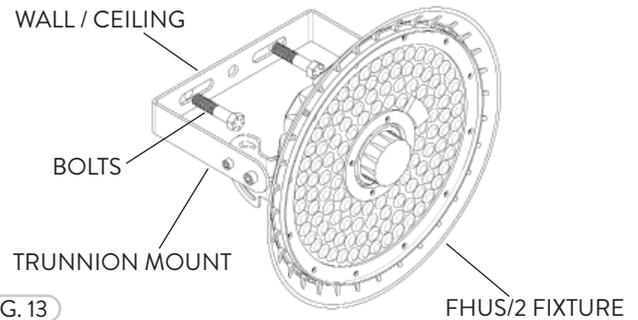

FIG. 13
- 4 Fasten the TRUNNION MOUNT, with the FHUS/2 fixture, to the mounting surface (Wall or Ceiling) with the appropriate bolts by a certified personnel and may vary depending on the mounting surface (Fig. 13) (Mounting Bolts not included).